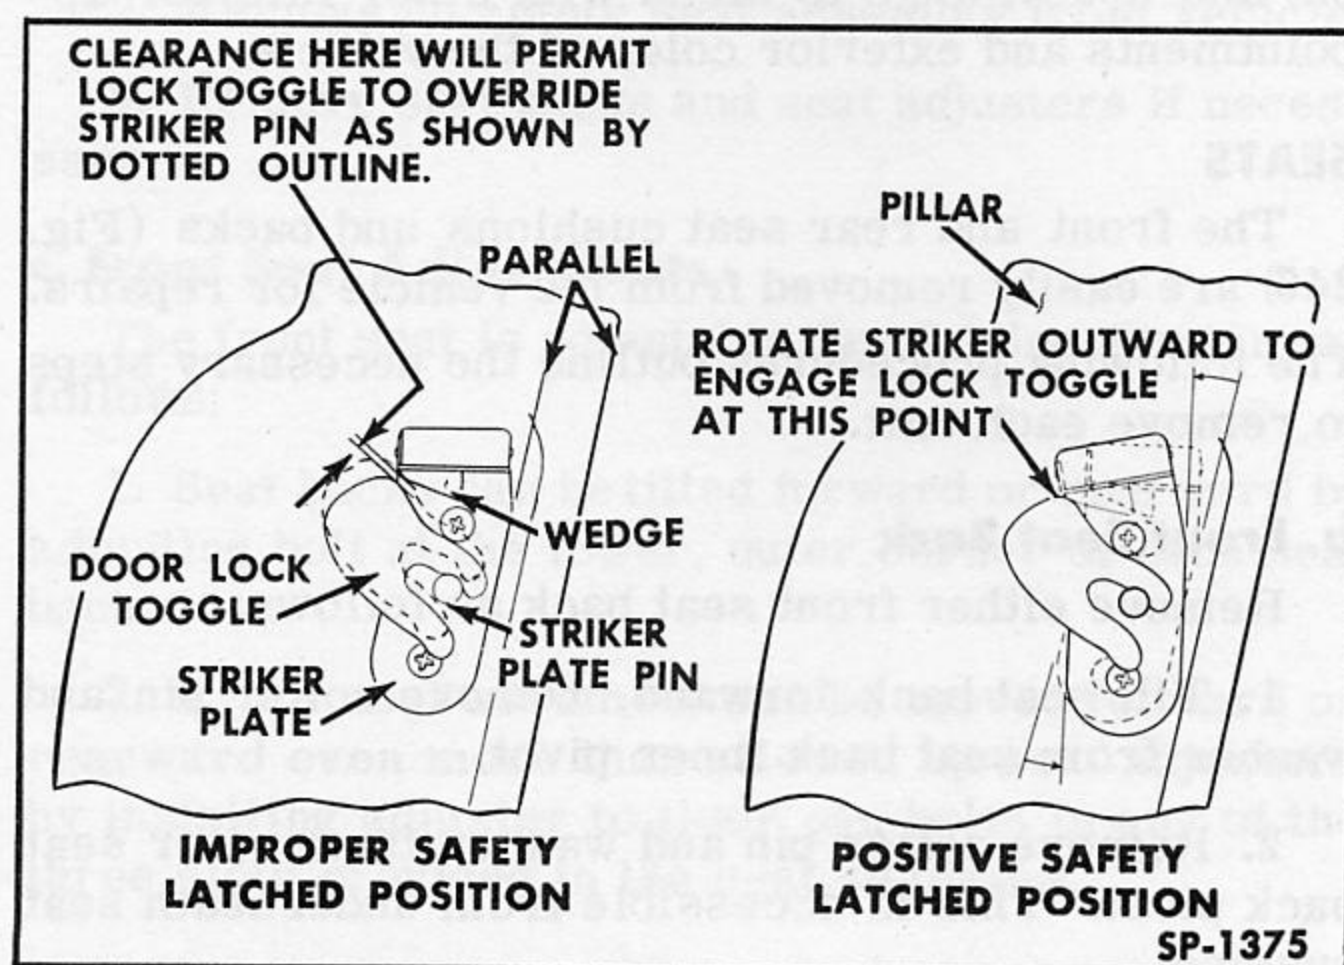

Fig. 243—Door Lock and Striker Engagement
4. Install door lock striker and adjust so door lock toggle will rest firmly against the striker wedge when door is in the safety position as illustrated in Fig. 243. This will prevent the door from opening while in the safety position.